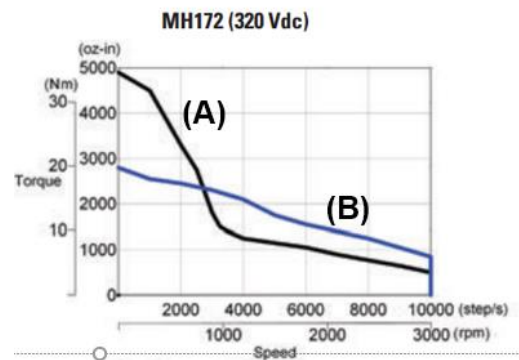

Figure 1
3. [1] One of the key parameters used to characterize a three-phase induction motor is its efficiency class (IE), that is determined according to the IEC 60034-30 standard. What does this parameter indicate and what is the significance of using a IE4 instead of a IE2 motor in a given application?
4. [2] Consider the torque-speed curve of a stepper motor (Kollmorgen MH172), a hybrid stepper motor with 2 phases and 200 steps per revolution, as presented in Figure 1.